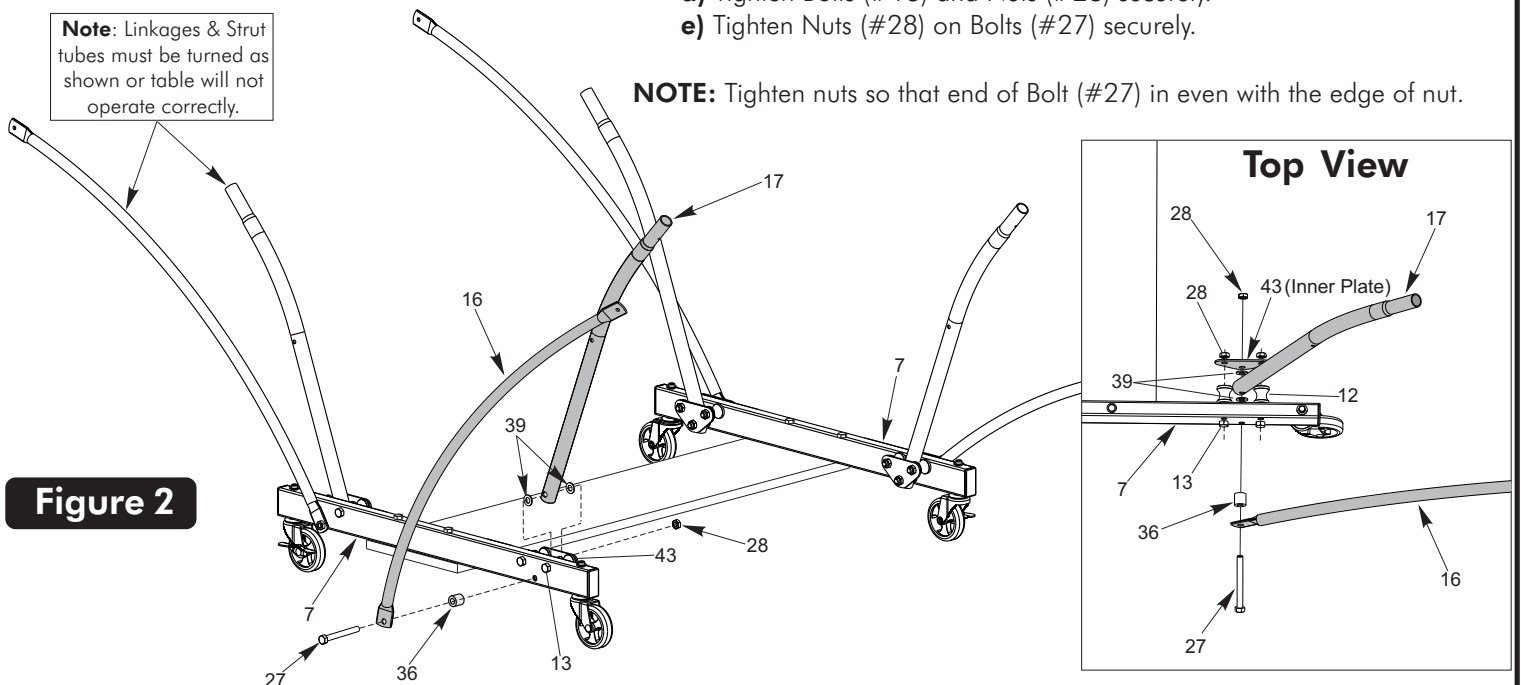

Figure 2
3. Attach Strut Tubes (#17) and Linkages (#16) to Caster Beam Assemblies (#7) as shown in **Figure 2**.
- a) Loosen Bolts (#13) and Nuts (#28) so that Strut Tube (#17) can fit between Inner Support Plate (#43) and Caster Beam (#7) as shown in the **Top View** and **Figure 2**.